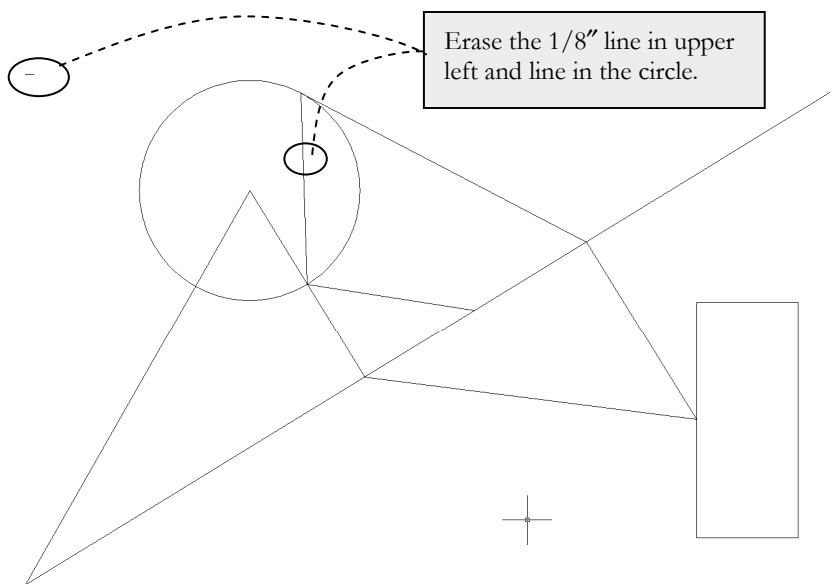

FIGURE 2-3.2
4. [Notice the *Command* line is prompting: **Select objects:**] Use the mouse to select the lines identified in **Figure 2-3.2**.